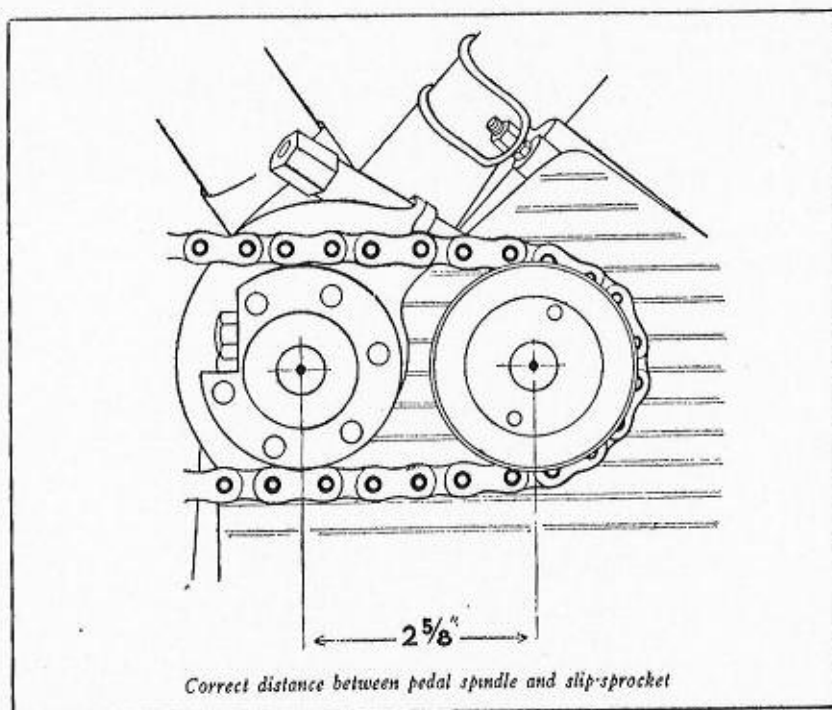

Fig. 5
Attention must be given while tightening the clamps (the necessary spanner is supplied with the motor) that the valve operating rods of the motor do not touch or are too near to the bicycle down tube (4). (A clearance of $\frac{3}{32}$ " is sufficient). If the clearance is not sufficient, an extra layer or two of red fibre or metal packing can be inserted at the engine recess. Attention must also be paid to the distance between centre of the slip sprocket (see Fig. 5), and the centre of the bottom bracket spindle, which is $2\frac{5}{8}$ ". If distance is not correct either the inner teeth of the crank-wheel will engage too deeply into the slip sprocket causing stiffness